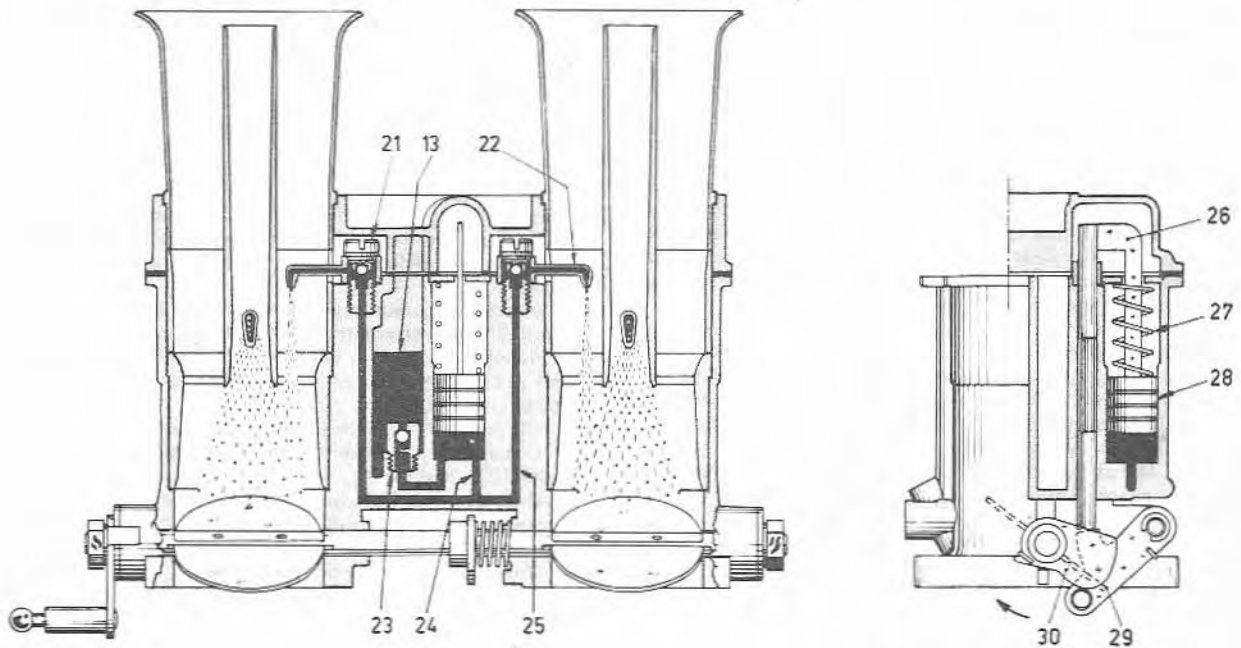

Fig. 8.7 Acceleration phase (46 IDA and 48 IDA) (Sec 3)
Refer to Fig. 8.7 and note that when the throttle valves are closed, the lever (29) under the action of its spring, lifts the accelerator pump operating rod (26). Fuel is then drawn from